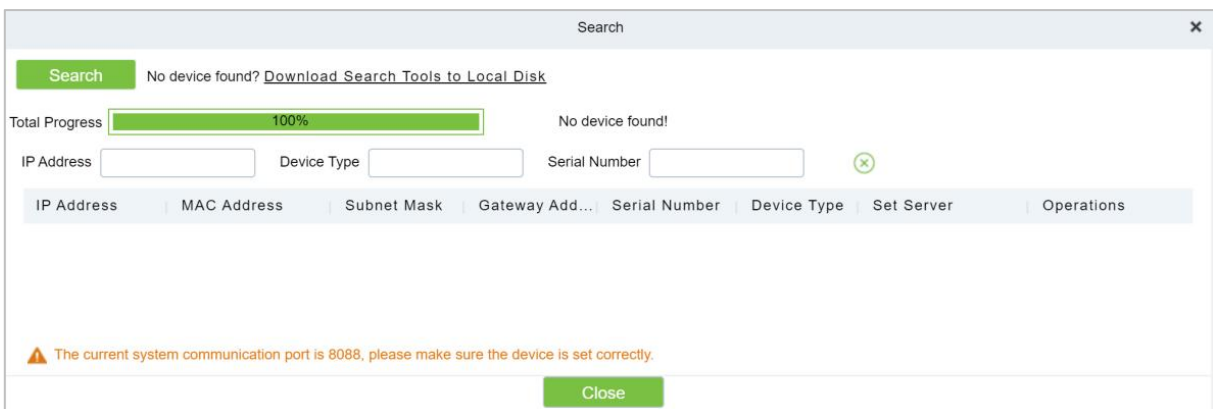

Figure 8-4 Device Search Add Interface
Step 3: Click "**Start Search**" in the search box to display the Elevator control devices that can be added, as shown in Figure 8-4.
Step 3: Fill in the corresponding parameter information in the new box. The new box of device is shown in Figure 8-4. Please refer to Table 8-2 for parameter setting instructions.